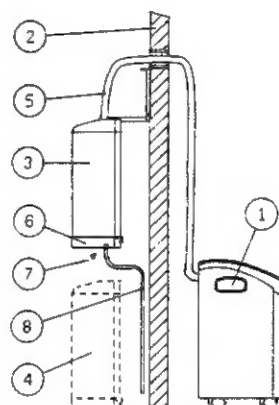

Figure 4. Installation
Determine whether the outdoor unit is to be suspended from the window or the wall, or placed on the floor near a doorway. Be sure the outdoor unit is stable and well supported at its place of installation (see Figure 4).
In high humidity conditions, the outdoor unit condensate basin (6) may overflow. If condensate leak occurs, it is recommended to use a permanent drain tube. Remove plug (7) (see Figure 4), located under the unit, and fit instead a 13-mm OD hose (8), routed to a drainage point.